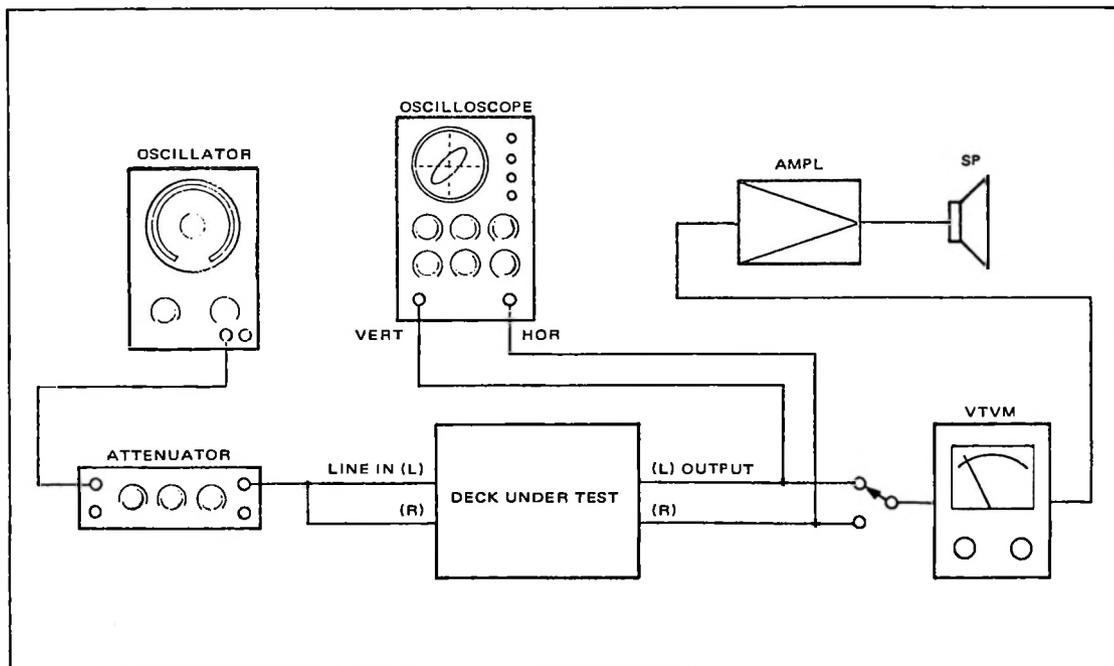

Figure 5-17. Test Connections
3. Refer to Figure 5-17 and connect an oscillator through an attenuator to the input connectors to set the input level to  $-10$  dBm. Connect a vtm to the output connector of channel 1.
Refer to Figure 5-17 when making required test connections. Table 5-3 gives Ampex part numbers for test tapes required for these procedures. Blank tapes are listed in Table 5-1, along with other necessary test equipment.
1. Refer to Figure 5-17 and connect a vtmv to the output connector. Also connect an oscilloscope with the channel 1 output
1. Connect recorder/reproducer to vtm as shown in Figure 5-17, terminating output with a 600-ohm load.